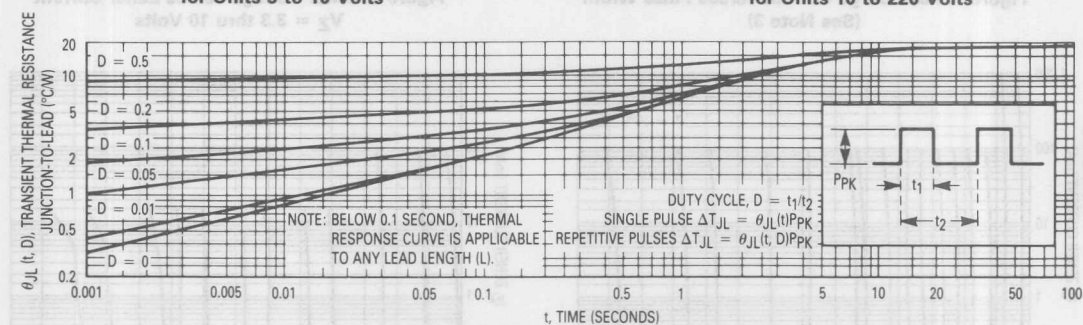
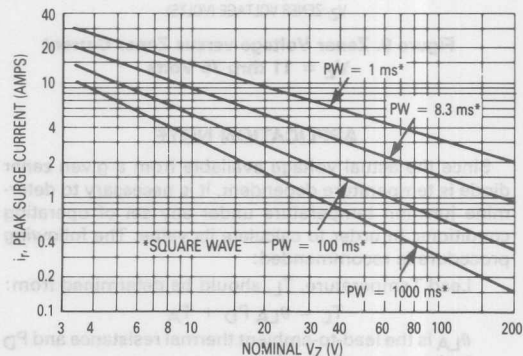

Figure 4. Typical Thermal Response L, Lead Length = 3.8 Inch
Figure 6. Maximum Non-Repetitive Surge Current versus Nominal Zener Voltage (See Note 3)
- (1) TOLERANCE AND VOLTAGE DESIGNATION — The JEDEC type numbers shown indicate a tolerance of $\pm 10\%$ with guaranteed limits on only V_Z , I_R , I_F , and V_F as shown in the electrical characteristics table. Units with guaranteed limits on all seven parameters are indicated by suffix "A" for $\pm 10\%$ tolerance and suffix "B" for $\pm 5\%$, C for $\pm 2\%$ and D for $\pm 1\%$.
- (2) ZENER VOLTAGE (V_Z) AND IMPEDANCE (Z_{ZT} & Z_{ZK}) — Test conditions for Zener voltage and impedance are as follows: I_Z is applied 40 ± 10 ms prior to reading. Mounting contacts are located $3/8"$ to $1/2"$ from the inside edge of mounting clips to the body of the diode. ($T_A = 25^\circ\text{C} \pm 2^\circ\text{C}$).
- (3) SURGE CURRENT (I_{RS}) — Surge current is specified as the maximum allowable peak, non-recurrent square-wave current with a pulse width, PW, of 8.3 ms. The data given in Figure 6 may be used to find the maximum surge current for a square wave of any pulse width between 1 ms and 1000 ms by plotting the
Data of Figure 4 should not be used to compute surge capability. Surge limitations are given in Figure 6. They are lower than would be expected by considering only junction temperature, as current crowding effects cause
temperatures to be extremely high in small spots resulting in device degradation should the limits of Figure 6 be exceeded.